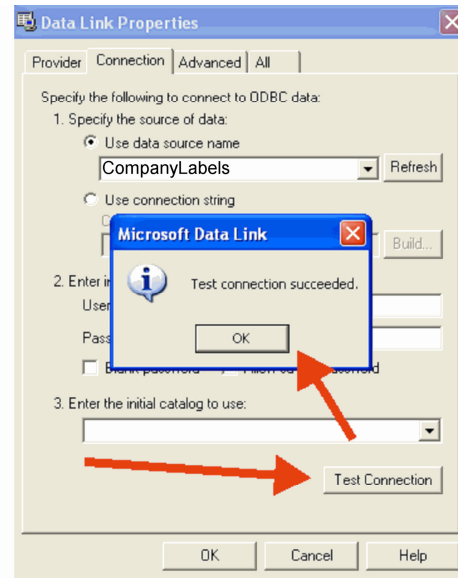

Figure 4-6b
4.2.7. Click [Test Connection] and then [OK]. (Figure 4-6b)